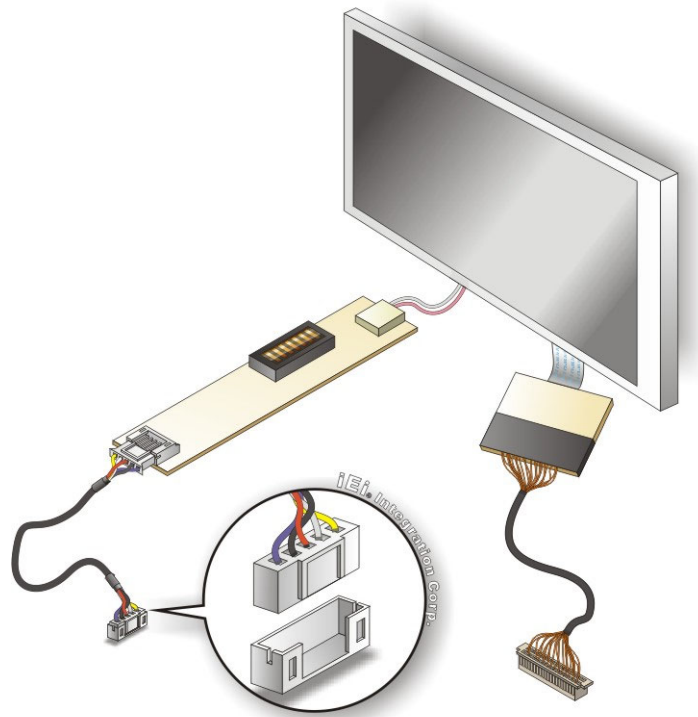

Figure 4-11: Backlight Inverter Connection
Step 4: **Connect backlight connector.** Connect the backlight connector to the driver TFT LCD PCB as shown in **Figure 4-11**. When inserting the cable connector, make sure the pins are properly aligned.